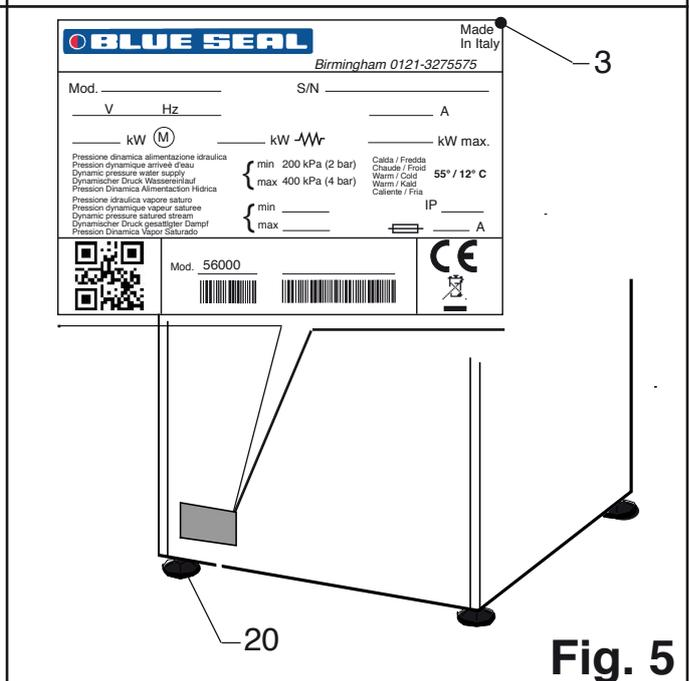

Fig. 5
**3.1.c Electric connection (Fig. 5)**
- Before performing the electrical connection, make sure that the data on the power line correspond to those indicated on the rating plate (pos. 3 Fig. 5) and that the main electric power switch upstream of the machine is disconnected " O " OFF.
- Connect the power cable (9) to the main switch upstream of the machine.
- Connect the equipotential earth electrode to the terminal (7).